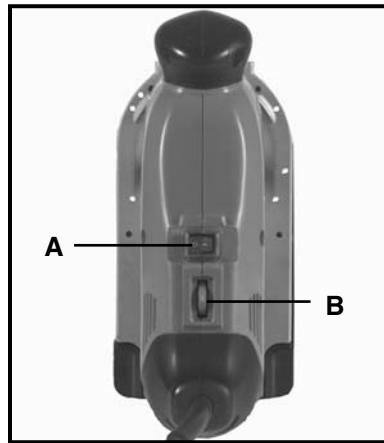

Fig. 4
2. Hold the machine as shown in Fig. 3, with the sander base in contact with a stable and secure workpiece, and turn the machine on with the power switch (A) Fig. 4.
3. To turn off machine, move the switch (A) Fig. 4, to the off position.
The Model 121 Oscillating Sander is equipped with a variable speed control dial (B) Fig. 4. The variable speed control can be set on 1-6. The speed ranges from 2400-3600 RPM, setting 1 is the slowest at 2400 RPM, and setting 6 is the fastest at 3600 RPM. The oscillating spindle varies with the speed; setting 1 is 2400 RPM with 38 oscillations per minute, setting 6 is 3600 RPM with 60 oscillations per minute.